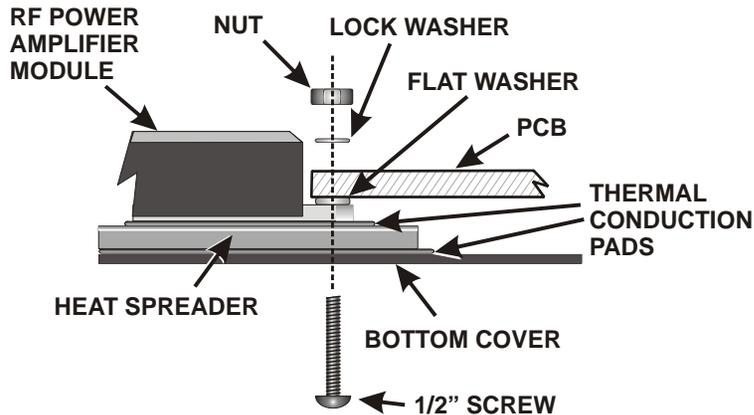

Figure 11. RF Module Mounting Hardware.
Carefully lift the bottom cover off of the transverter. The two long screws that secure the RF power module should come out with the bottom cover. Be careful not to disturb the flat washers between the RF amplifier module and the PCB. If one does slip out of place, reposition it. The correct hardware placement is shown in Figure 11.
Tighten the nuts at each end of the RF module. Inspect the RF module to ensure that both flat washers are between the module and bottom of the PCB (see Figure 11). Remove the cabinet side panel, if necessary, to get a clear view of the RF module mounting hardware.
- Carefully lift the bottom cover off of the transverter. The two long screws that secure the RF power module should come out with the bottom cover. Be careful not to disturb the flat washers between the RF amplifier module and the PCB. If one does slip out of place, reposition it (See Figure 11).
- Tighten the nuts at each end of the RF module. Inspect the RF module to ensure that both flat washers are between the module and bottom of the PCB (See Figure 11). Remove the cabinet side panel, if necessary, to get a clear view of the RF module hardware. Replace the top cover and tighten the four corner screws to secure it.